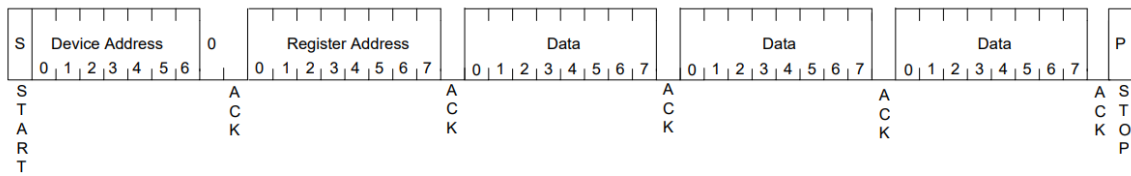

Figure 12: I²C Bus 3-byte Data Write
address pointer of the SY7T611. After receiving another acknowledge (A) signal from the 78M6610+PSU the master device will transmit the data byte(s) to be written into the addressed memory location. The data transfer ends when the master generates a STOP (P) condition. This initiates the internal write cycle. The example in Figure 12 shows a 3-byte data write (24-bit register write).